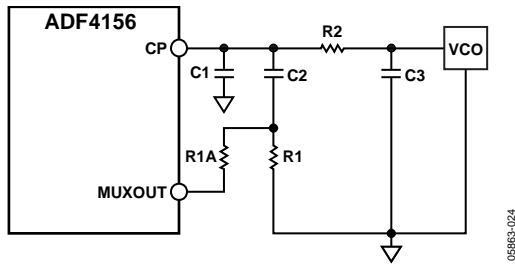

Figure 23. Topology 2—Fast-Lock Loop Filter Topology
- Topology 2: Connect an extra resistor (R1A) directly from MUXOUT, as shown in Figure 23. The extra resistor must be chosen such that the parallel combination of an extra resistor and the damping resistor (R1) is reduced to  $\frac{1}{4}$  of the original value of R1 (see Figure 23).